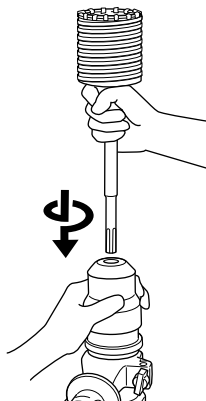
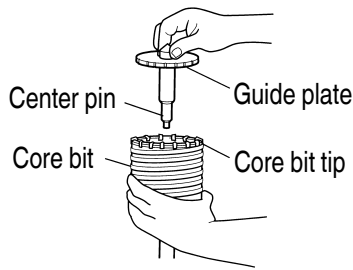

Fig. 25
Fig. 26
- (2) Mount the core bit shank to the Rotary Hammer. **(Fig. 25)**
- (3) Insert the center pin into the guide plate until it stops.
- (4) Engage the guide plate with the core bit, and turn the guide plate to left or right so that it does not fall even if it faces downward. **(Fig. 26)**